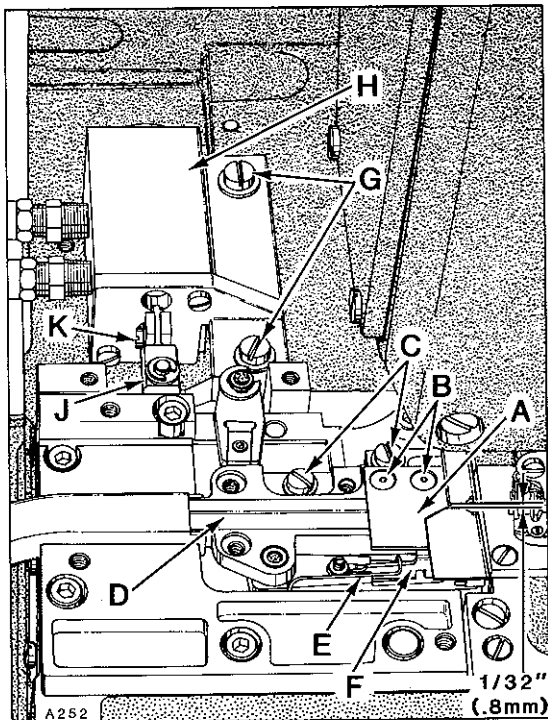

Fig.27
Upper knife (A, Fig. 27) can be replaced by removing two screws (B). To replace lower knife, the upper knife must be removed and rear suction tube cover. Loosen two screws (C) and slide housing (D) towards the rear. Remove throat plate support with throat plate attached. Remove screw (A, Fig. 28) and lift up thread inlet (B). Unhook knife spring (E, Fig. 27) and remove lower knife (F). Reassemble knives in reverse manner. Reassemble thread inlet (B, Fig. 28) and slide housing (D, Fig. 27) forward against rear of throat plate; tighten two screws (C).
IMPORTANT: Be sure that lower knife does NOT strike against knife housing or feed chamber cover. Adjustment should be accomplished by loosening two screws (G, Fig. 27) and reposition air motor (H) left or right slightly, but under extreme circumstances it may become necessary to shorten the stroke of lower knife travel by repositioning coupling (J).
Carefully press against lower knife (F, Fig. 27) until air motor stalls. With treadle still depressed, check the knife cross over. Cross over of lower knife to upper knife is positioned correctly when the lower knife is 1/32 inch (.8mm) from the front of upper knife as shown in Figure 27. If adjustment is required, loosen screw (K) and reposition coupling (J) as required to obtain specified dimension.